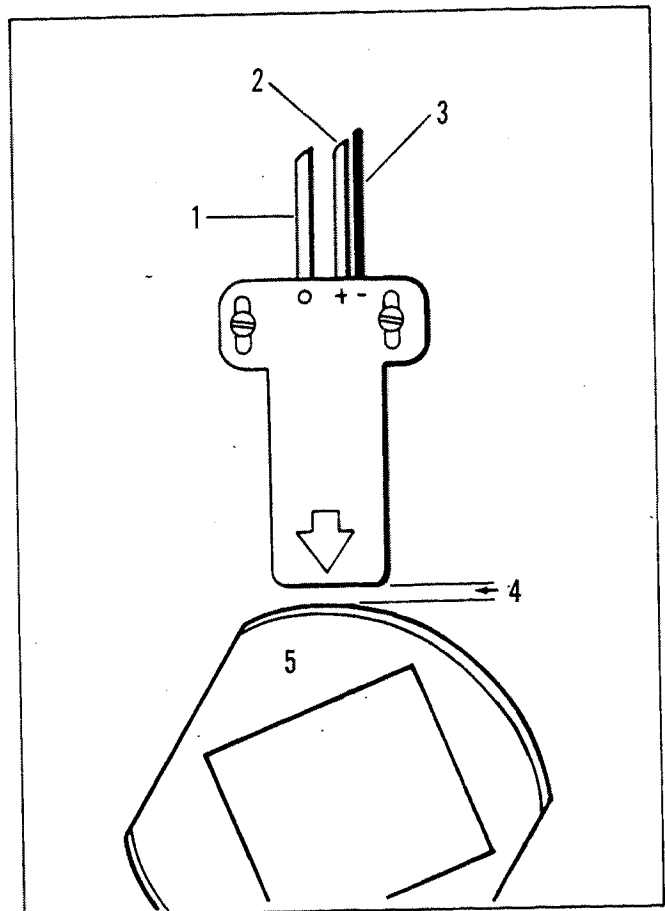

**Figure 6-17. Aligning Adapter and Flywheel Housing**
18. Move generator as necessary to align adapter and flywheel housing. Fasten and final tighten adapter to flywheel housing bolts and lockwashers. Figure 6-17.